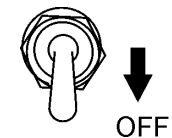

Figure 28. Operation Switch (OFF)
5. To shut-down the engine, place the generator's operation switch (Figure 28) in the **OFF** position.
1. Place operation switch (Figure 28) in the **OFF** position.